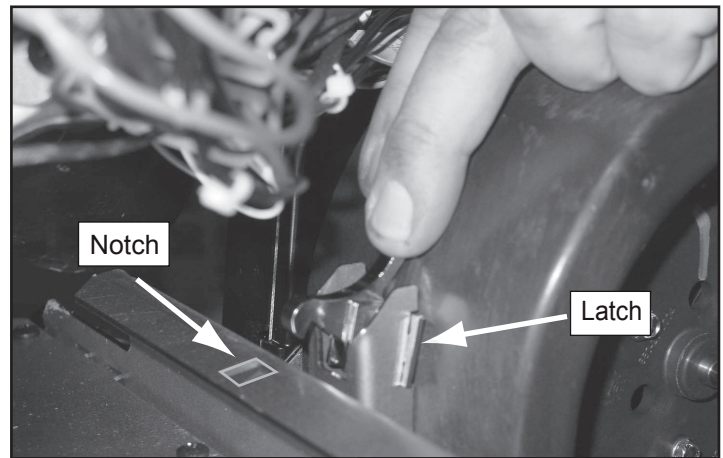

Figure 40.2
5. Reach behind the blower and release the latch by pushing the top of the latch towards the blower. **Figure 40.2.**